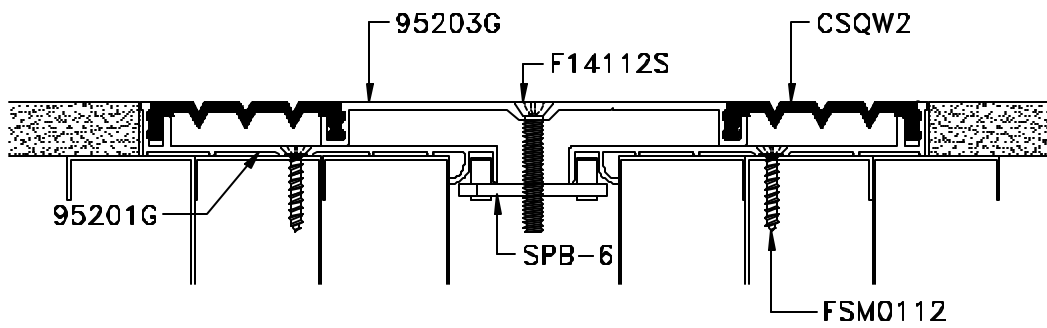
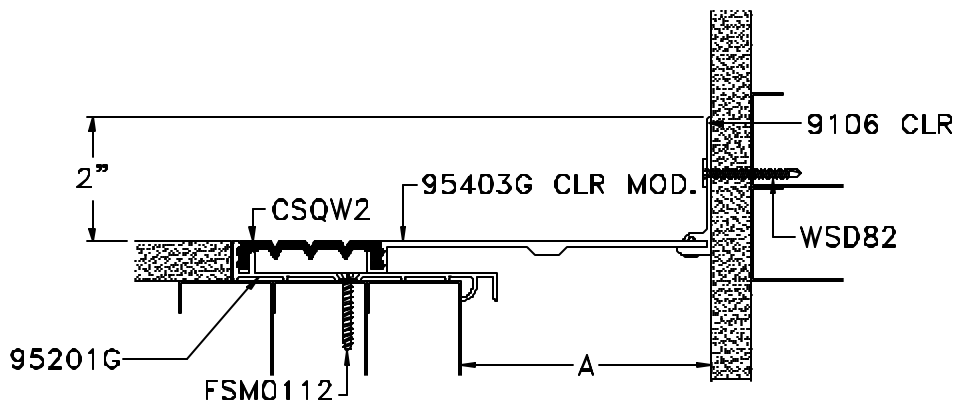

Figure 15
Figure 16
STEP 30. Insert each elastomeric seal tab into its corresponding channel in the base member and in the cover plate (see Figure 15 and Figure 16). Ensure that each seal's tabs are inserted completely into their channels.